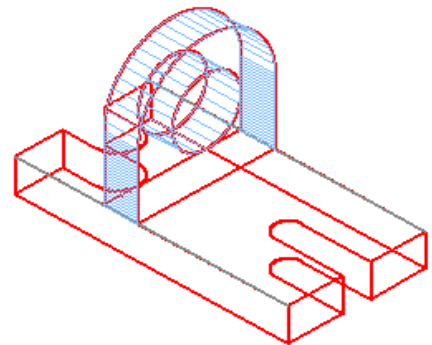

Figure Step 10
Step 10 Using what you just learned, insert ruled surfaces around the top of the object as shown in Figure Step 10. Surface the inside of the hole also.